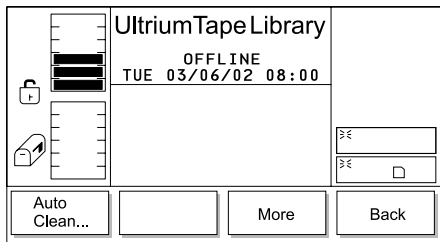

Figure 153. More Dialog
4. Press the button below the **More** softkey. The More Dialog displays (see Figure 153).
7. Press the button below the **OK** softkey. The library enables or disables automatic cleaning and redisplay the More Dialog (see Figure 153 on page 130).